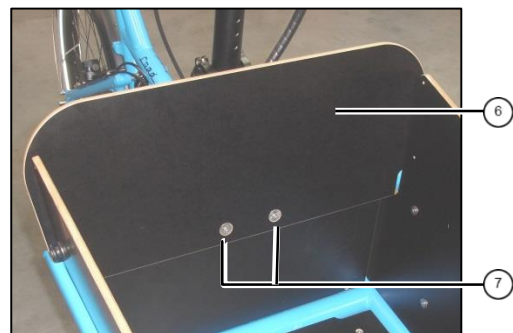

Fig. 3: Cargo back wall
5. Install Cargo back wall ^⑥ with countersunk screws ^⑦ (see fig. 3).